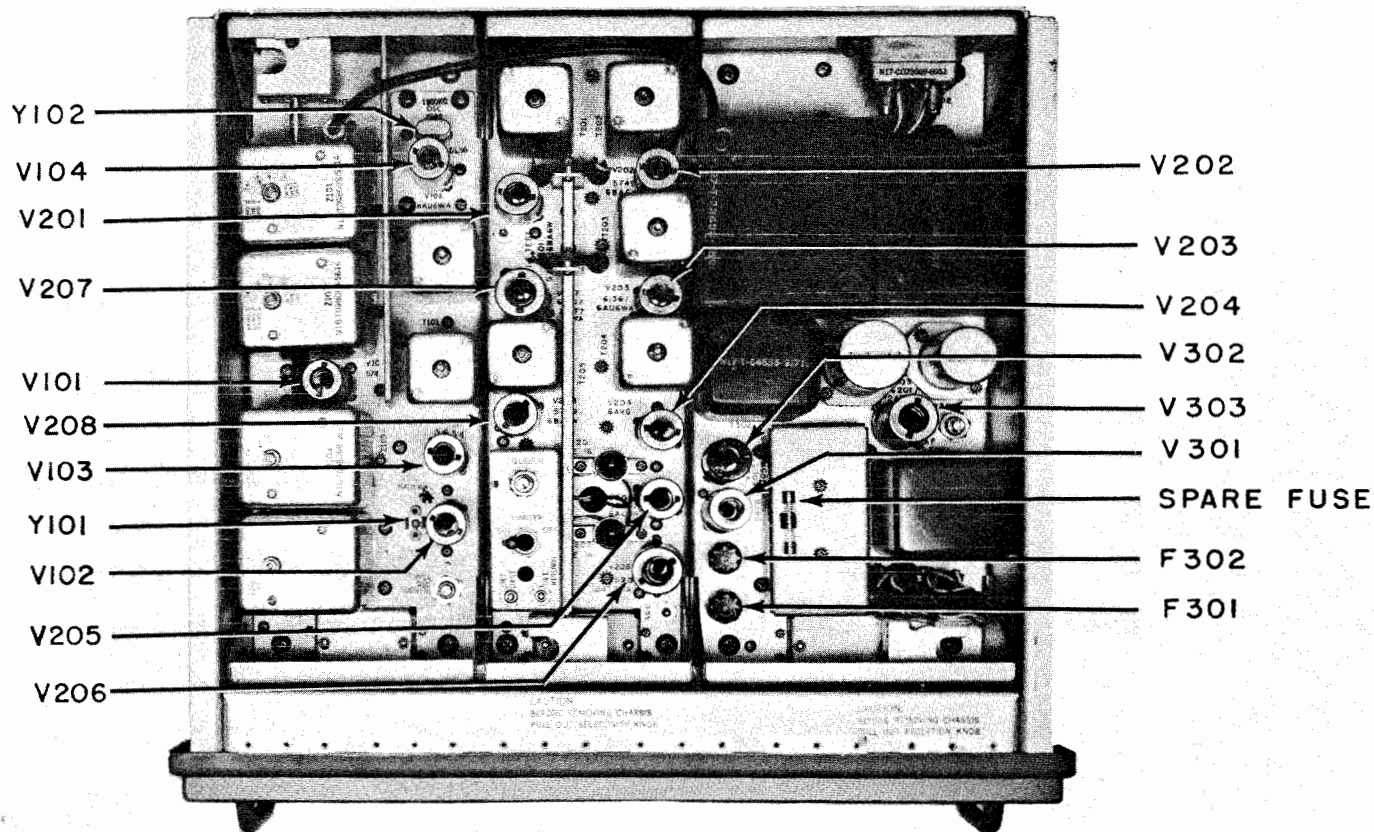

Figure 5-1. Top View of the Unit out of the Case Showing Crystals, Fuses and Tubes
b. FUSE INFORMATION.—Two 1-ampere, type 3AG, slow-blow glass cartridge fuses located on the top of the Audio/Power Supply sub-chassis as indicated in figure 5-1, are the only fuses used in Radio Receiver AN/FRR-31. These fuses protect the 105, 115, 125 volt, 50-60 cycle primary circuit. Access to the fuses is obtained by unscrewing the four fasteners in the corners of the front panel, and pulling the entire unit out of the case until the side latches prevent further movement. The fuses are removed by pushing down on the fuse holder head, then twisting it approximately one-quarter turn in a counterclockwise direction. The fuse holder head, with the fuse attached may now be lifted up. Condition of the fuse may be determined by observing through the glass casing whether the fuse link has been broken or melted. Always replace a bad fuse with one of exactly the same rating and type and, before replacing, check the cables and the set visually to make certain that no obvious faults exist. The description of the fuses is given in table 8-2 under F301.
A spare fuse is mounted in a clip next to the audio output transformer on the Audio/Power Supply sub-chassis, as indicated in figure 5-1. Additional spare fuses should be kept at hand for replacement use. If the fuse F301 and/or F302 blow following a replacement, check wiring and connections for obvious shorts. If no shorts are apparent, further servicing must be entrusted to qualified maintenance personnel.
c. ELECTRON TUBE INFORMATION.—The full complement of electron tubes used in the AN/FRR-31 is given in table 1-4. These tubes are all located on the three chassis assembly units as indicated in figure 5-1.
a. TUBE DATA.—The full complement of electron tubes used in Radio Receiver AN/FRR-31 is given in table 1-4. These tubes are all located on either the RF, IF, or Audio/Power Supply chassis assemblies of the receiver. Their locations on these individual chassis are shown in figure 5-1.